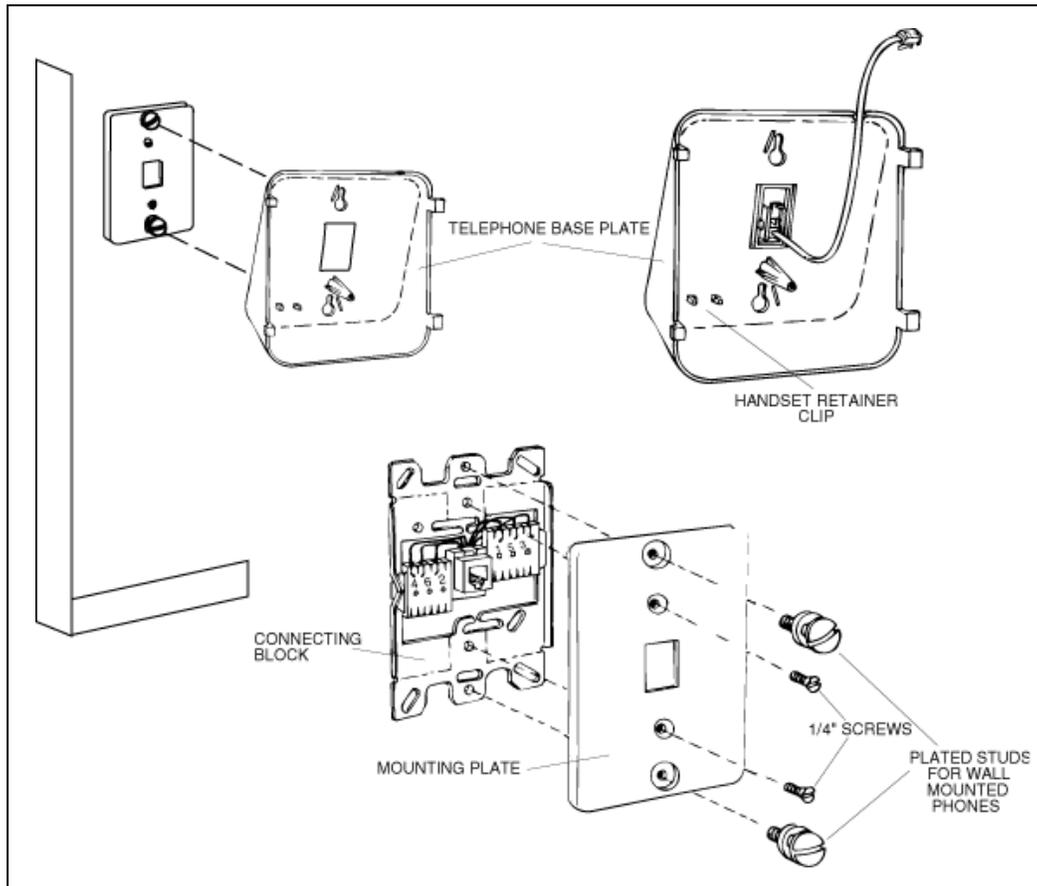

Figure 3-41: Electronic Key Telephone Wall Mounting
6. Now match the two key hole slots on the baseplate with the lugs on the 630-A type jack. Align the modular connector and slide telephone into place. Refer to Figure 3-41.
To wall mount the Digital Key Telephone, it is necessary to use the Wall Mount bracket and one standard-type jack assembly designed for normal wall hanging applications. Refer to Figure 3-41 and Figure 3-42.